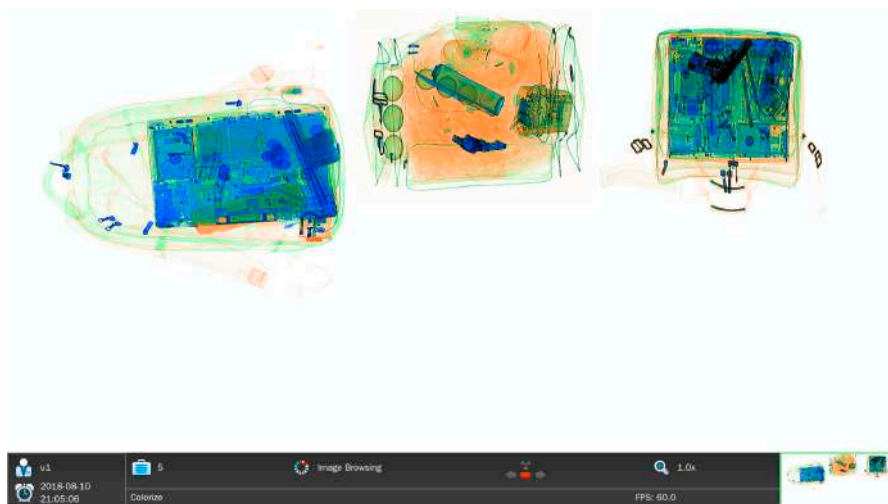
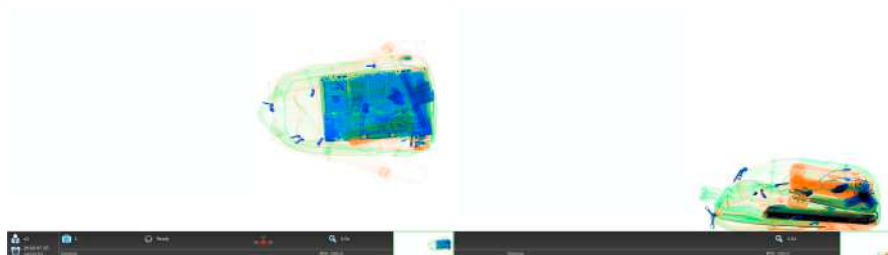

Figure 6-2 Single-view Scanned Image Diagram
Figure 6-3 Dual-view Scanned Image Diagram
Step 1 Press  on the operation keyboard. The corresponding indicator lights up and the conveyor starts to move, sending the inspected item into the tunnel. When the inspected object is scanned in the tunnel, the beam-on indicator lights up, and the system will show the scanned image on the display by way of scroll. The single-view image is as shown in Figure 6-2, the double-view image is as shown in Figure 6-3. The dual-view product can respectively show two views on two displays. It can also simultaneously show two views on the primary display. You can switch between the two display modes.